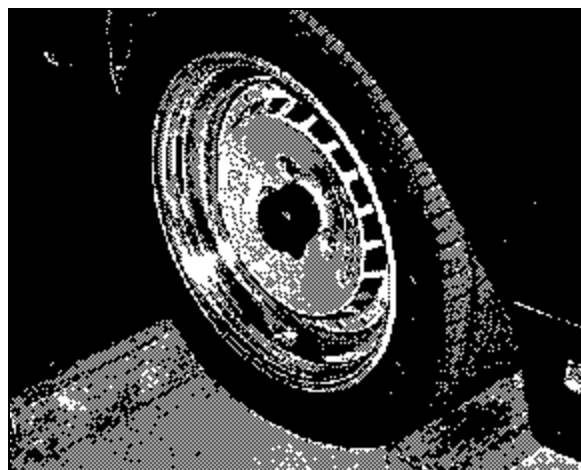

Fig. 1
1. Place car on level surface and place tire chocks in front of and behind front tires (**Figure 1**).